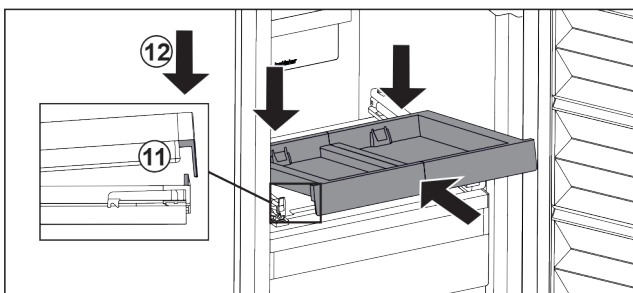

Fig. 37
- ▶ Slide in at an angle. Make sure that the stop is behind the lug on both sides. Fig. 37 (11)
- ▶ Lower the pull-out board at the front. Fig. 37 (12)